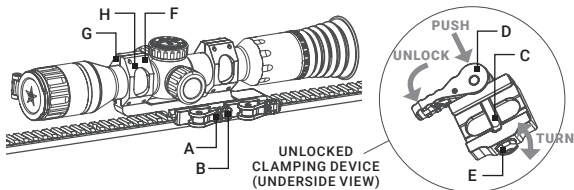

FIGURE 2-6. INSTALLATION WITH QUICK RELEASE MOUNT
The Spectrum 4K-Mini scope be can mounted on a Picatinny/Weaver rail using optional AGM quick release (QR) mount (Figure 2-6).
1. Unlock the clamping devices of the QR mount by pushing down on the lever holders (A) and unlocking the levers (B).
2. Install the mount on the Picatinny/ Weaver rail so that the stops (C) slide into the transverse slots on the rail.
3. Affix the mount to the rail by locking the levers (B).